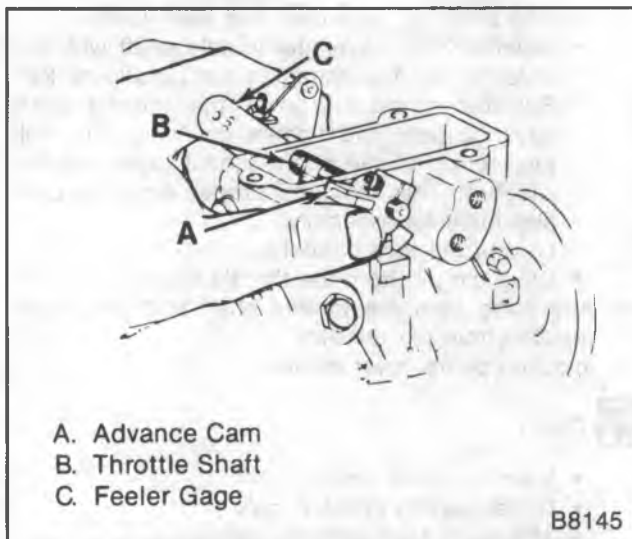

Figure 24—Setting Advance Cam to Housing Clearance
6. A 0.005-inch feeler gage between the white washer on the throttle shaft and the pump housing (figure 24).